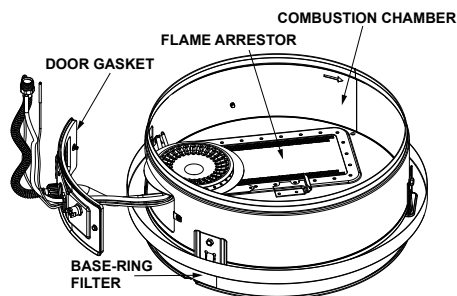

**FIGURE 37.**
- Position the new pilot tube through the largest opening of the manifold component block. **NOTE:** The largest opening should be located at the top position. The igniter wire should be located in the middle opening and thermocouple in the bottom opening. (Figure 37)